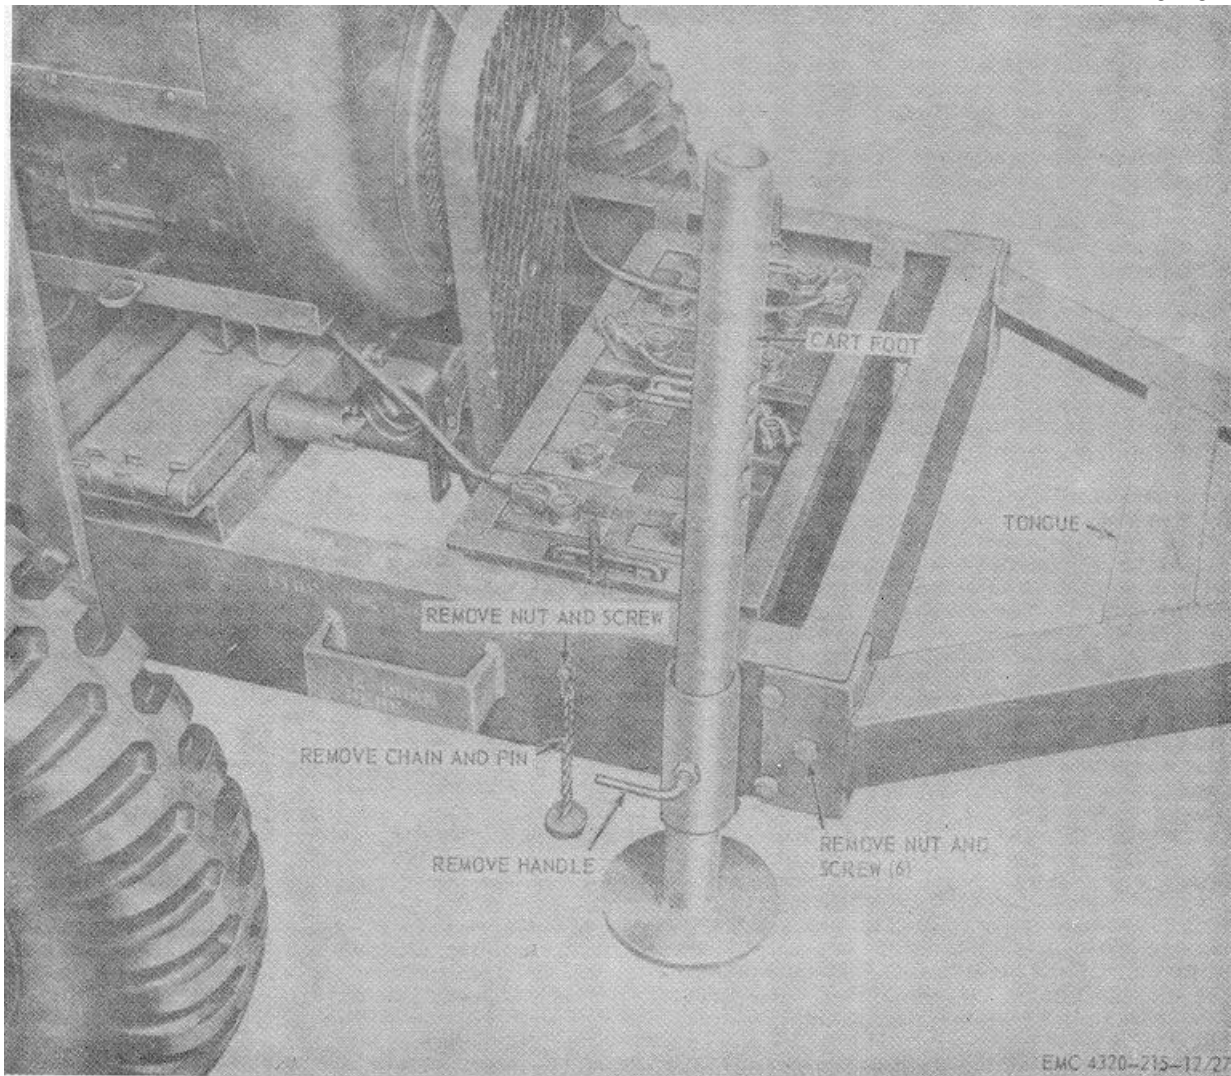

Figure 27. Tongue and cart foot, removal and installation
- a. Remove and install the tongue and cart foot as shown by figure 27.